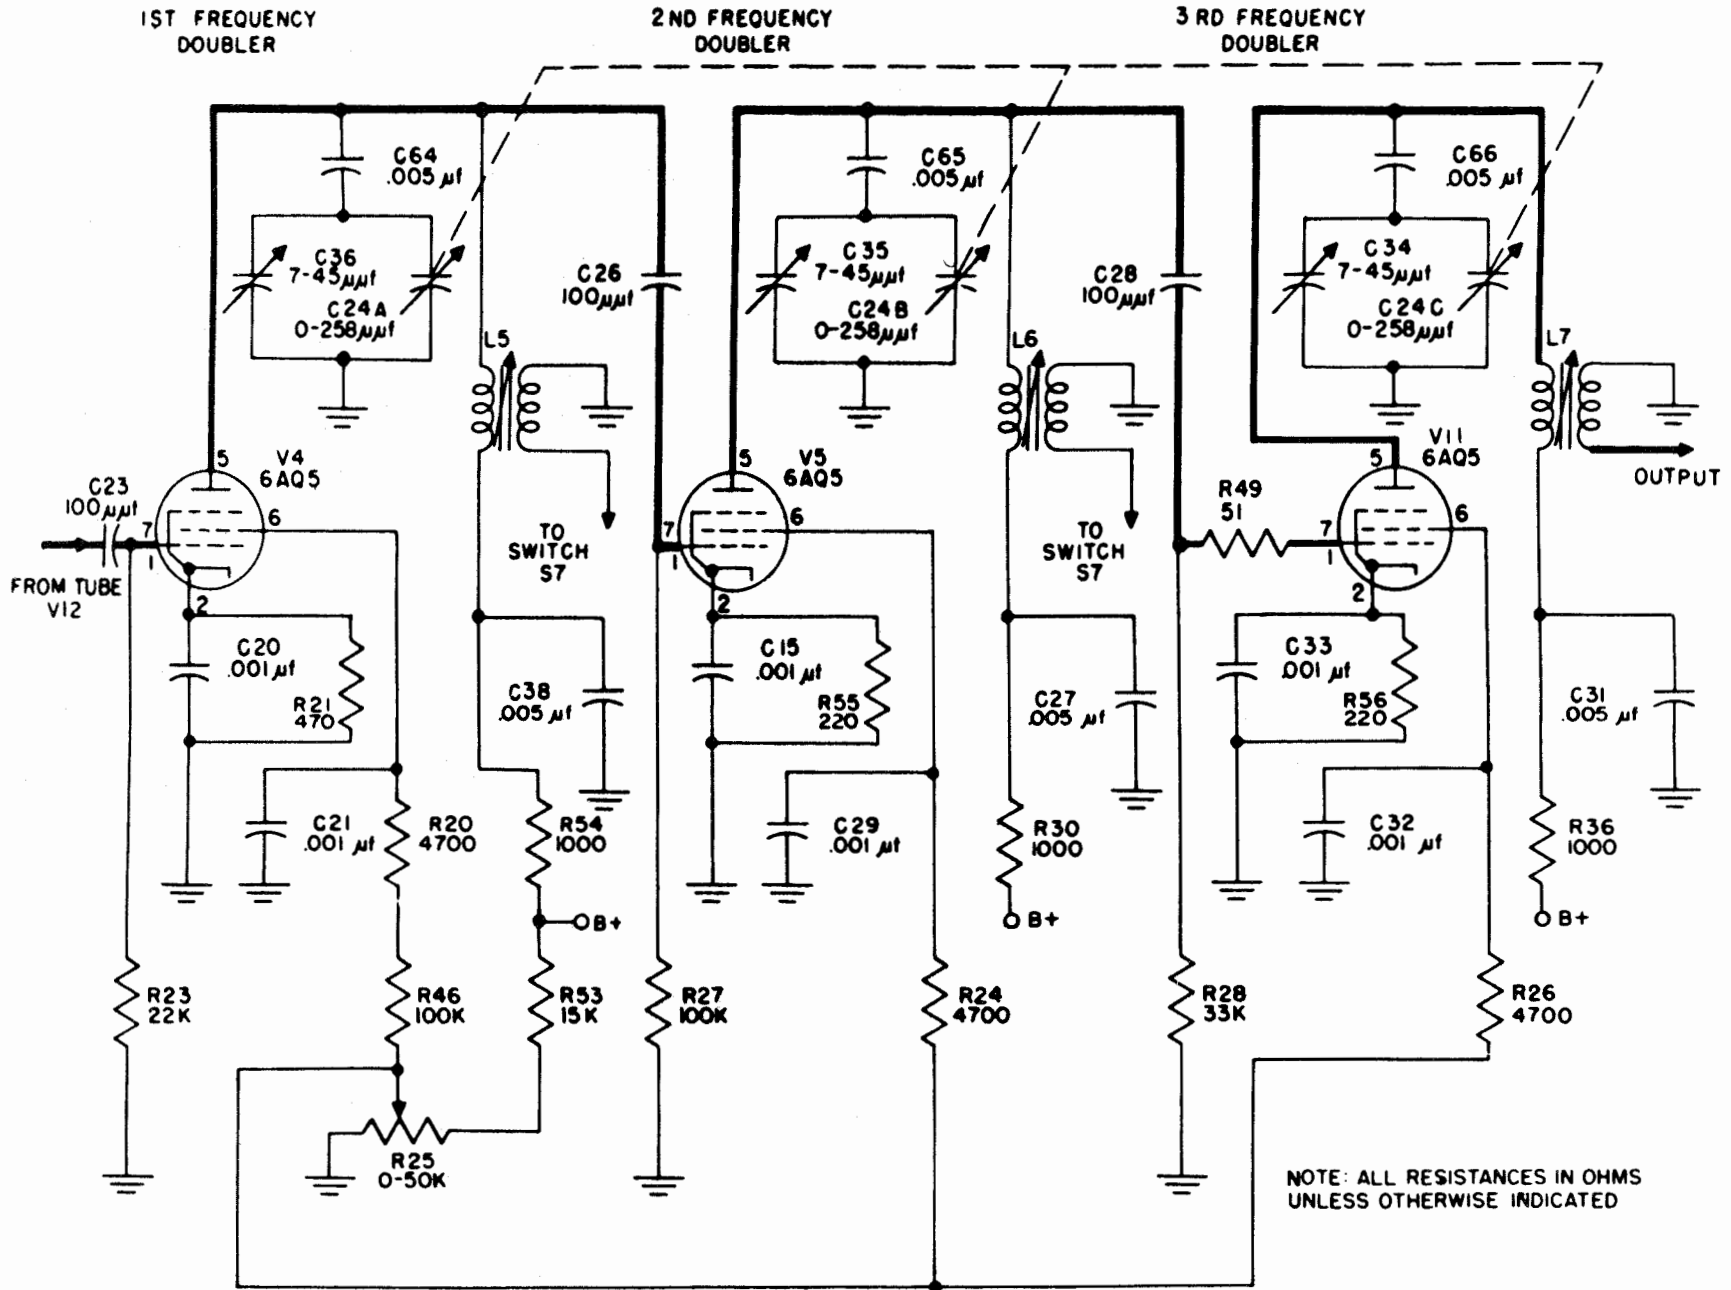

Figure 2-6. FREQUENCY RANGE MC Switch in "16-32" Position, Simplified Schematic
(5) 16-32 MEGACYCLES. (See figure 2-6.)—FREQUENCY RANGE switch S7 is set to "16-32" megacycles. The connections to tubes V4 and V5 are the same as in "8-16" megacycle operation. The output from the plate of tube V5 is applied to the grid of tube VII through coupling capacitor C28. Bias for tube VII